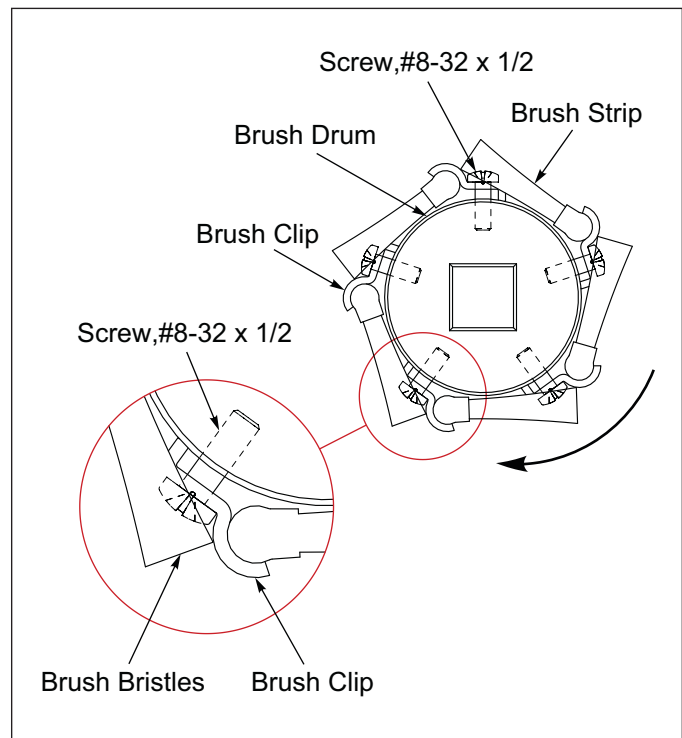

Figure 3-14: 5-Strip Brush Agitators
- 5-Strip Brush Agitators are typically used for Fluffy Native Seeds. 5-Strip Brush Agitators should never be used with small seed varieties such as Clover, Alfalfa, or Timothy. Small seeds can cause the brushes to swell and pull out of Brush Clips. **See Figure 3-14.**